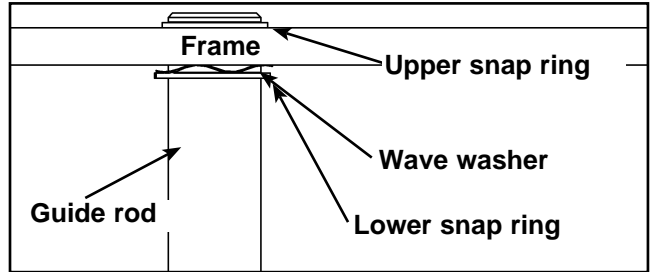

Figure 7
- C. Using an external snap ring pliers, remove the upper snap ring from one of the guide rods and carefully lower the guide rod. See Figure 7.